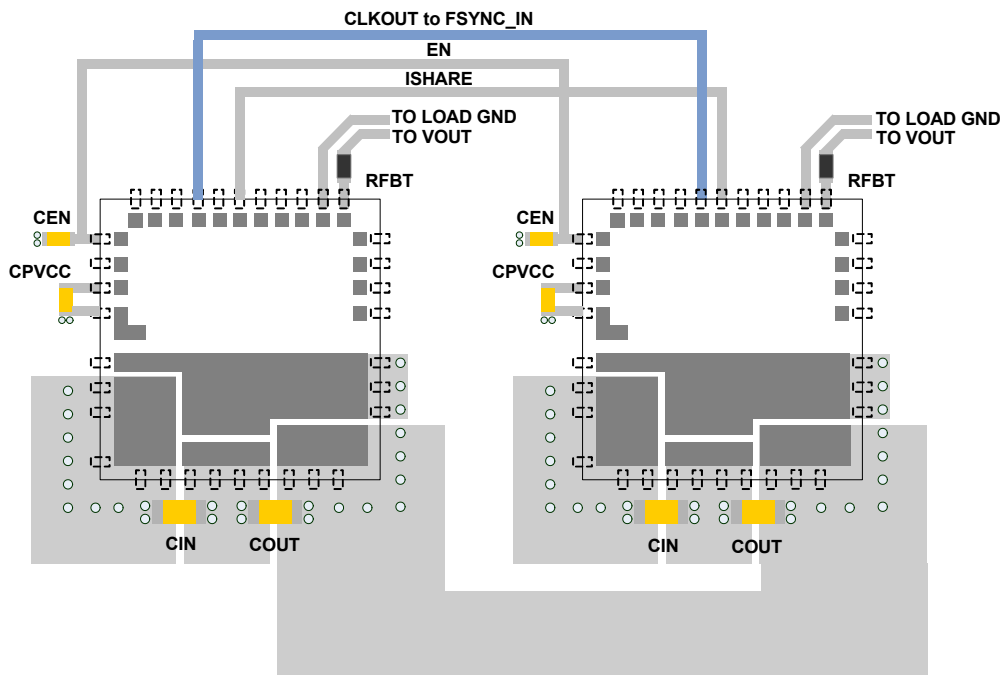

FIGURE 37. RECOMMENDED LAYOUT FOR DUAL PHASE SETUP
- Place modules such that Pins 1 to 11 point away from power pads (PD1-4) so that signal busses (EN, ISHARE, CLKOUT-to-FSYNCIN) can be routed without going under the module. Run them along the perimeter as in Figure 37.
- Keep remote sensing traces separate, and connect only at the regulation point. Four separate traces for VSEN\_REM- and RFBT (which stands for remote feedback) as the example shows in Figure 37.